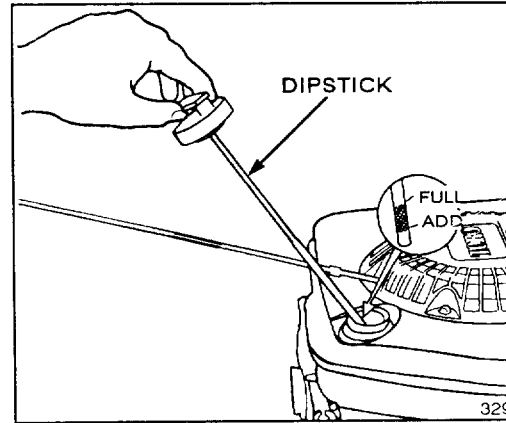

Figure 7
Before each use, ensure oil level is between FULL and ADD marks on dipstick (Fig. 7). Add oil if level is low.
3. Wipe dipstick and insert it into filler neck. Rotate cap clockwise 1/4 turn. Then remove dipstick and check level of oil on side of dipstick with FULL and ADD marks (Fig. 7). If level is low, add only enough oil to raise level to FULL mark on dipstick. **DO NOT FILL ABOVE FULL MARK BECAUSE ENGINE COULD BE DAMAGED WHEN STARTED. POUR OIL SLOWLY.**
1. **CHECK OIL LEVEL**—Maintain oil level between ADD and FULL marks as shown on dipstick (Fig. 7).